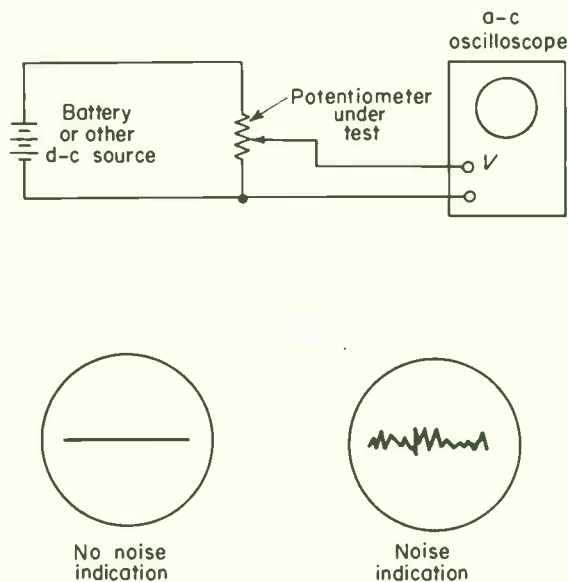

Fig. 9-10. Checking potentiometers for dynamic and static noise.
As shown in Fig. 9-10, a constant direct current is applied through the
1. Connect the equipment as shown in Fig. 9-10.